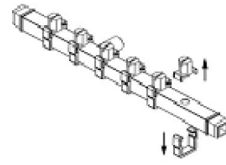

Fig 5
3. Remove the spray nozzles and the nozzle clamps (Fig 5).